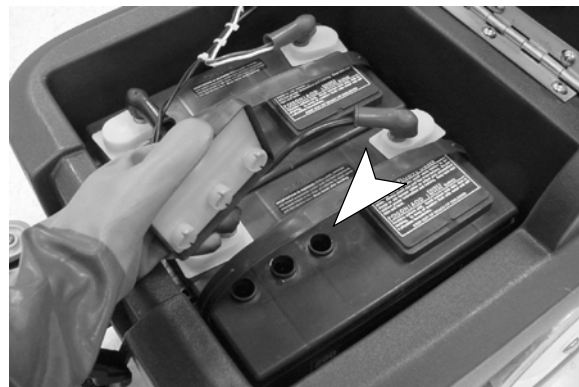

FIG. 17
3. Before charging the batteries, check the electrolyte level in each battery cell (Figure 17).